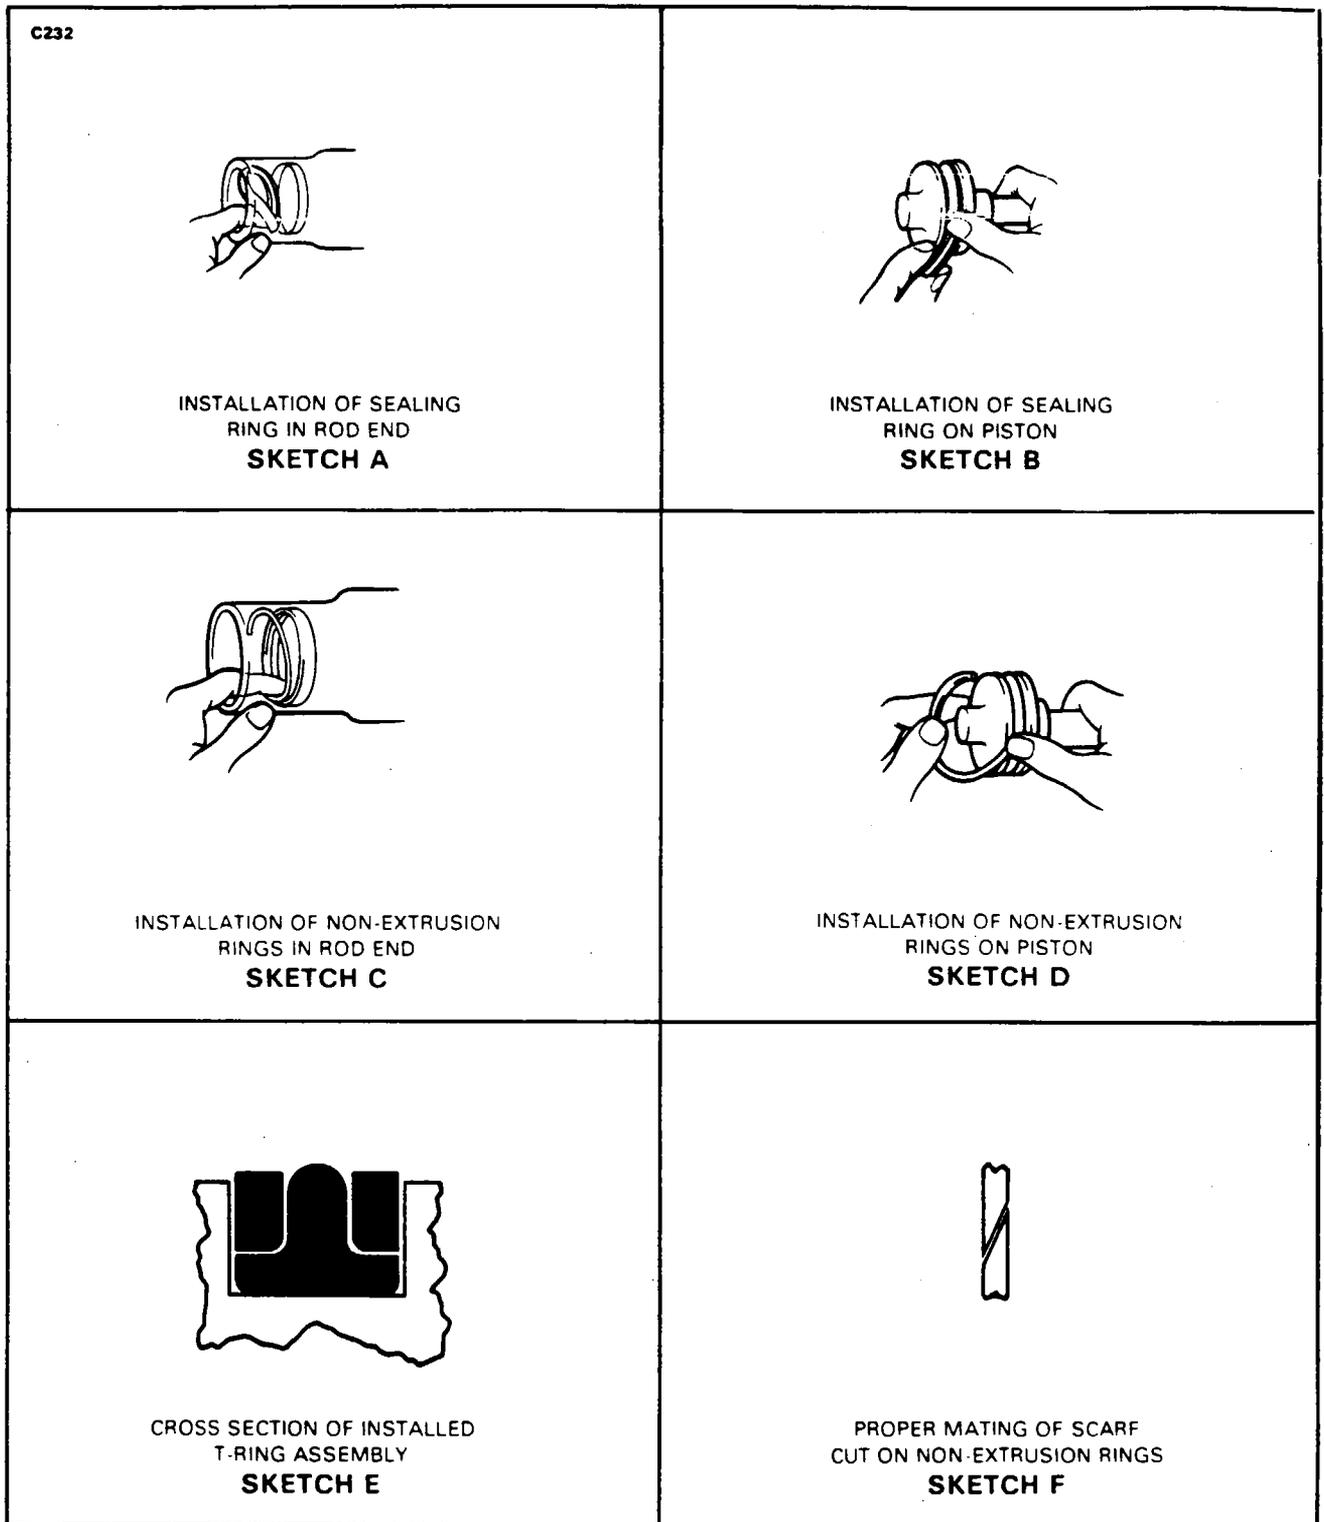

Figure 32-1. Installation of T-Rings
**REPLACEMENT OF T-RINGS ON LOWER BEARINGS. (Refer to Figure 32-1.)**